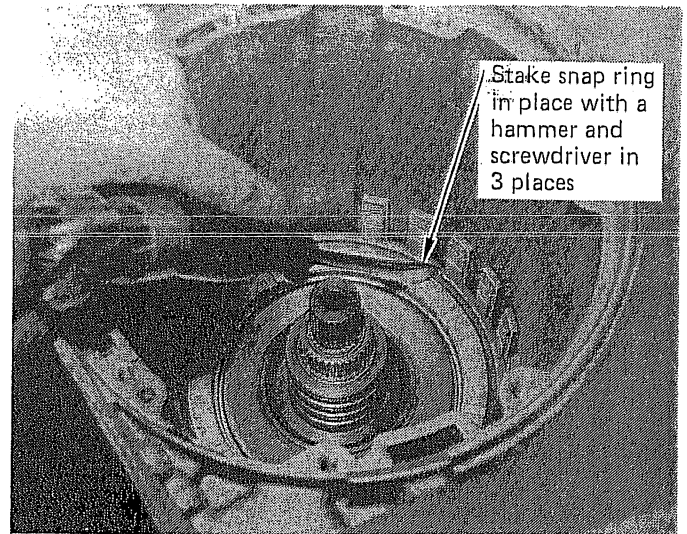

FIGURE 45
**STEP 10.** Install the center support snap ring. The beveled edge must face up. Stake the snap ring with a hammer and a screwdriver to seat it fully. (See Fig. 45)